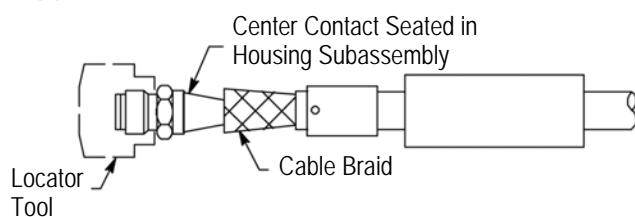

Figure 3
dielectric. See Figure 3, Detail A. Remove center contact holder. Remove excess solder and splatter.
5. Insert the center contact into the back of the housing subassembly until the center contact is seated firmly. Make sure that the cable braid does not enter the housing subassembly. See Figure 3, Detail B.